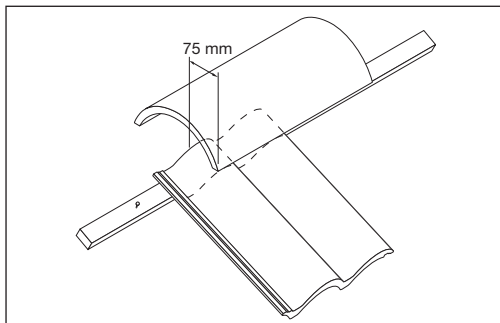

Fig 16 – Fixing top (ridge) course
- Fix top course batten so that ridge tile provides a minimum 75mm cover to top course tile (Fig 16).